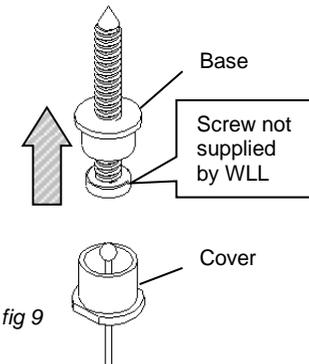

fig 9
6. To suspend the luminaire, first fix the suspension bases to the ceiling as fig 9 using an appropriate method for ceiling type.
Feed the suspension cable into the cover as fig 9 and screw the cover to the base.